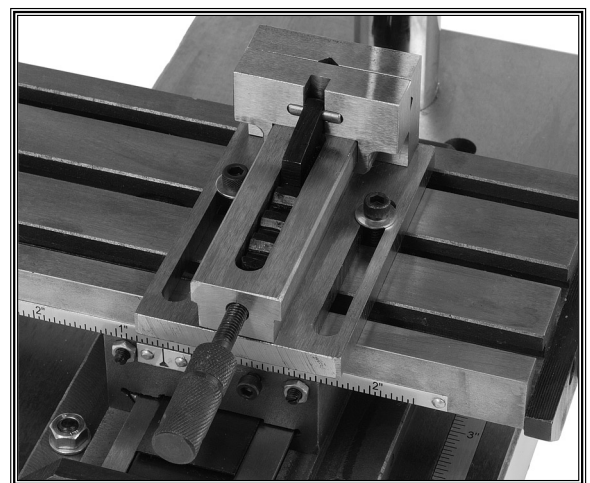

Figure 10. Securing the vise.
2. Place the vise on the compound slide table and loosely secure it by threading two M6-1 x 18 cap screws with washers through the vise and into the T-bolts, as shown in **Figure 10**.